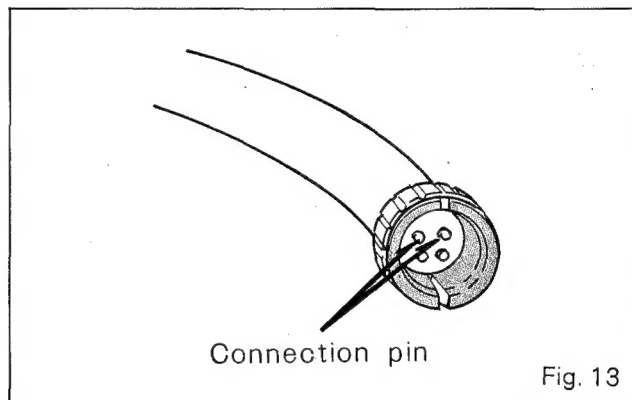

Fig. 13
- Yes: Remove the headshell, touch the upper two pins at the end of the arm with a metal screwdriver and listen for the speaker to produce a humming noise. (Fig. 13)